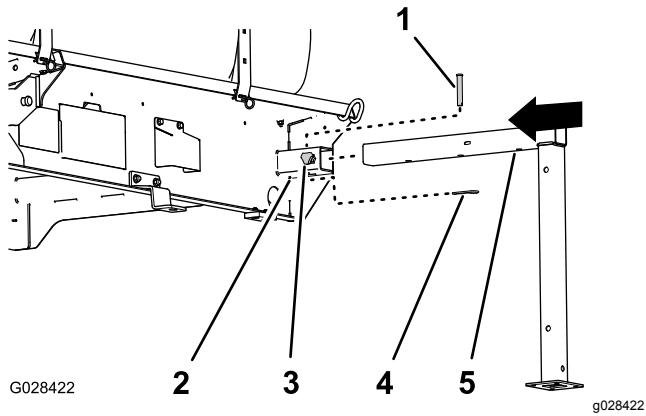

Figure 105
1. Align the front jackstand with the jackstand receiver at the front of the tank (Figure 105).
2. Insert the jackstand into the receiver until the middle hole in the horizontal jackstand tube is aligned with the hole in the top of the receiver (Figure 105).
4. Thread a lock knob into the receiver tighten the knob by hand (Figure 105).